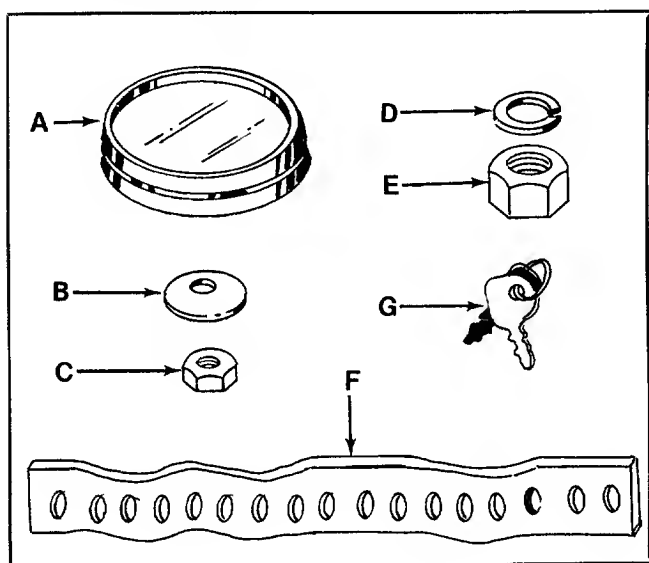

FIGURE 1.
(See Figure 1)
← B. Place seat on spring and secure with lock washer (D) and hex nut (E). See figures 1 and 3.